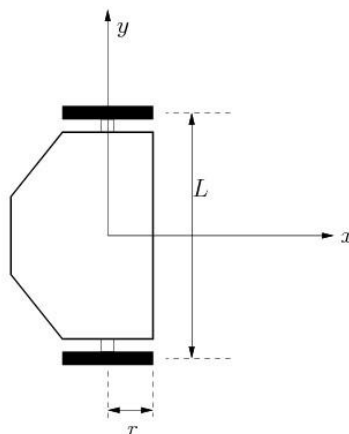

Figure 1: Differential-drive robot axis for robot axis
67.5mm, y: 5mm), (x: 67.5mm, y: (-)5mm) and (x: 64.3mm, y: (-)35.4mm)), see Figure 1 Differential drive robot axis for robot axis. You may place the sensors in any configuration. Therefore, you can use 1 – 5 sensors in any configuration. The less they are, the more efficient the system will be but line following will be more complex and vice-versa.